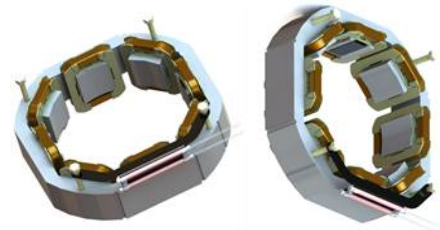

Figure 6.6: Fastening of tubular resistance
5. Fasten the space heater support with the exciter stator screws, according to figure 6.6 and 6.7;